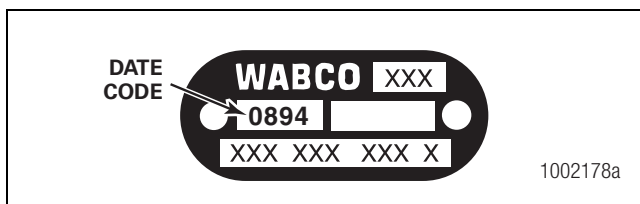

Figure 2.18
**NOTE:** The bypass valve is used on dryers with date codes of 0894 or earlier. Figure 2.18.